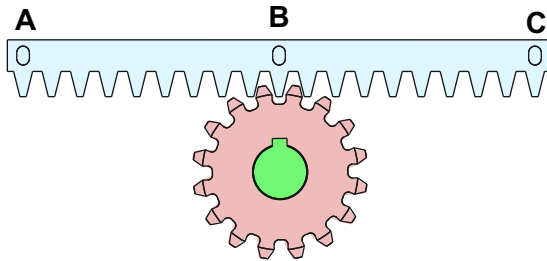
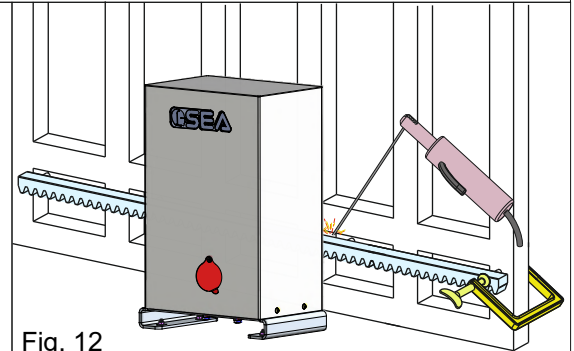

Fig. 11
Fig. 12
5.3. Lean the rack element on the pinion - Fig. 11 - in parallel to the gate slideway on the ground, then weld the central pawl **B** to the gate structure - Fig. 12.